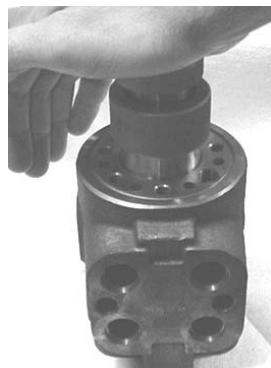

Figure 17
- Push plunger into sleeve until it bottoms out, rotate 1/4 turn (figure 17).